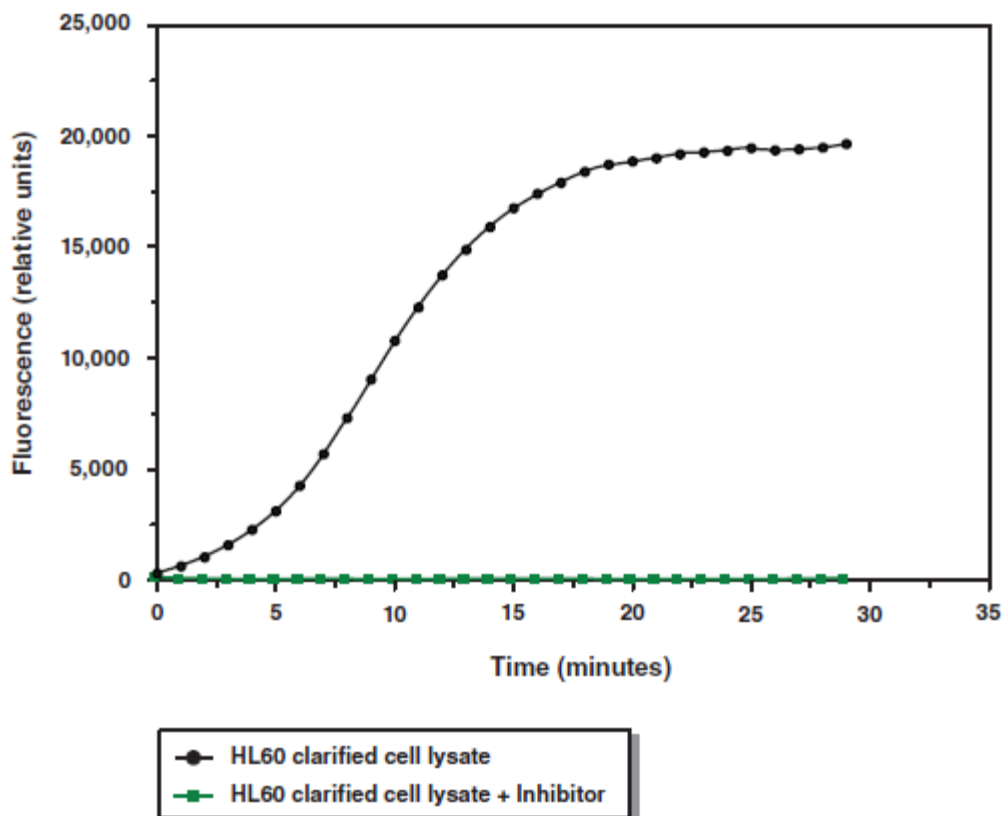

Figure 4. Human myeloid leukemia HL60 10,000 x g supernatant assayed with and without MPO inhibitor.
- a. Plotting the fluorescence values as a function of time to obtain the slope (rate) of the linear portion of the curve. An example of human myeloid leukemia HL60 10,000 x g supernatant assayed with and without MPO inhibitor over time is shown in Figure 4,